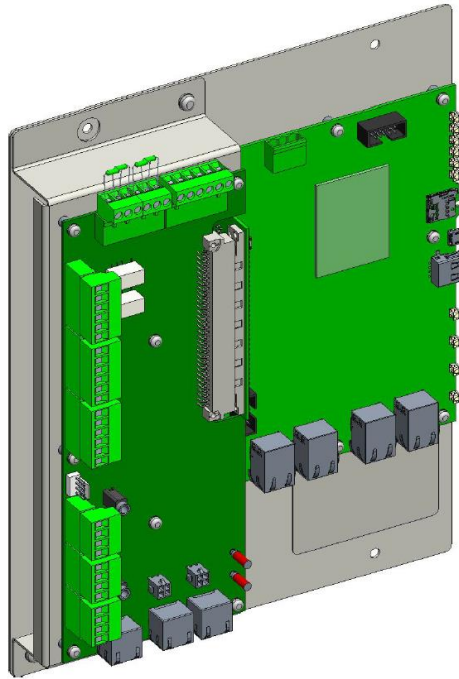

Figure 1B – FP2026 QE20 SCEP Controller Module
- FP2026 QE20 SECP Controller Module – for mounting in shallow (SECP) cabinets. Refer Figure 1B.